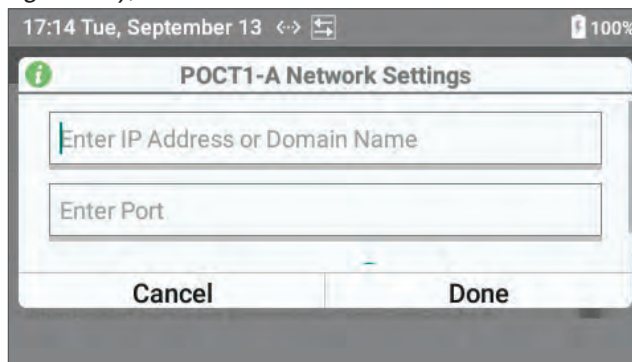

Figure 31: POCT1-A Network Settings
- 3 In the dialog box (Figure 31), enter the **IP Address** and the **Port**.